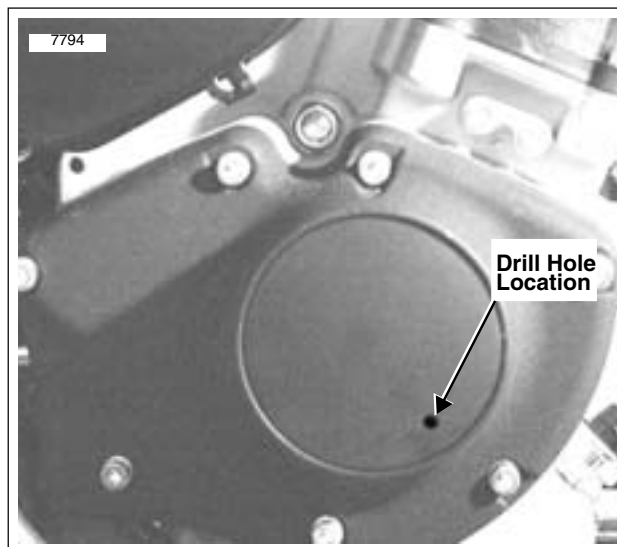

Figure 1-41. Drilling/Removing Timer Cover
7. See Figure 1-41. Drill hole in location shown and remove outer timer cover, if not removed.
10. See Figure 1-41. Tighten module plate screws to 15-30 in-lbs (1.7-3.4 Nm)